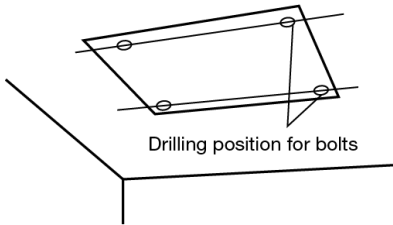

Fig. 2
- f. Provide the minimal amount of space shown in Fig. 2, so that the air flow is not blocked. Also for efficient operation, leave at least three of the four directions open and not facing peripheral construction.
Using the installation template, drill holes for bolts (four holes) (Fig. 2).